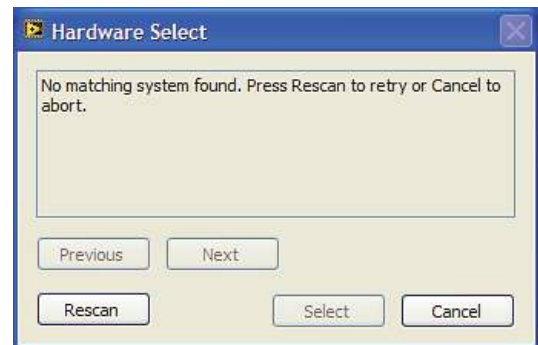

Figure 15. Connectivity Error Alert
2. If the AD7492 evaluation system is not connected to the USB port via the EVAL-SDP-CB1Z when the software is launched, a connectivity error displays (see Figure 15). Connect the evaluation board to the USB port of the PC, wait a few seconds, click Rescan, and follow the instructions.